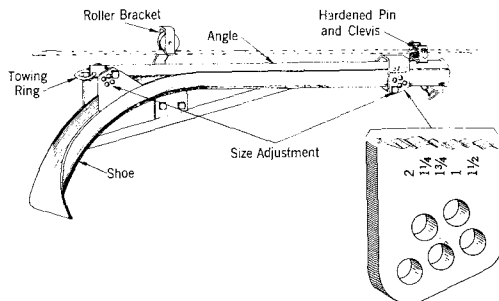

Fig. 4 - Two-inch Cable Guide
**3.01** The Two-inch Aerial Cable Guide (Fig. 4) has an adjustable angle iron insert to aid in straightening the cable as it passes through the guide.